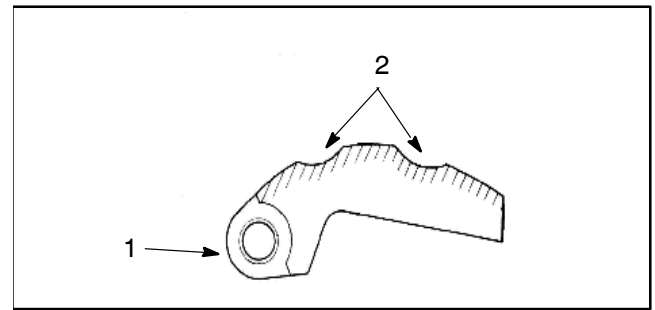

Figure 11
2. Check the contact surface of the cam weights. If worn, replace all cam weights as a set (Fig. 11).